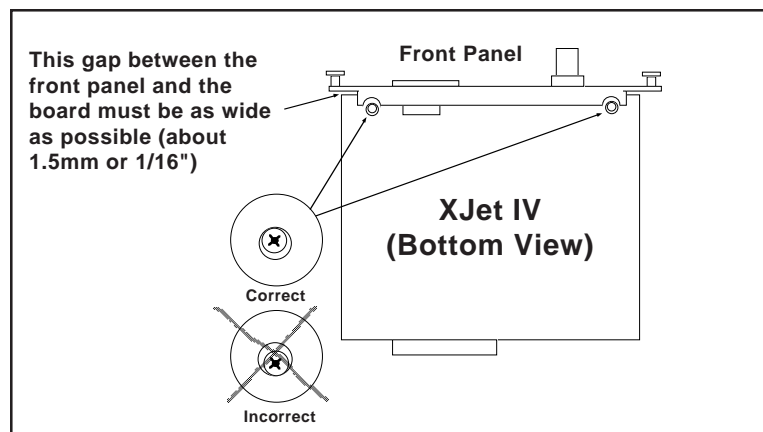

Figure 14-1
- b. If the self-test does print and you have an XJet IV or XJet 100, the XJet card Ethernet address, node name, and Ethernet statistics should appear on the printout. If they do not, first check the front panel spacing as shown in figure 14-1 (this has been a major cause of this problem). If the front panel is OK, try reinstalling
2. If you have an XJet IV or XJet 100 card, check the printer self-test page. The XJet card Ethernet address, node name, and Ethernet statistics should appear on the printout. If they do not, first check the front panel spacing as shown in figure 14-1 (this has been a major cause of this problem). If the front panel is OK, try reinstalling the board (if you have a LaserJet 4 or 4M, make sure that the board is tightened all the way because this printer is especially sensitive to loose connections). If none of this works, the board may be bad.
2. Another major cause of intermittent operation with the XJet IV-Plus is the front panel problem shown in figure 14-1. Make sure that the front panel is properly mounted, and then reinstall the board in the printer.
4. Random 79 SERVICE xxxx errors on the printer can be caused by the front panel problem described previously and in figure 14-1. If adjusting the front panel does not fix the problem, the hardware may be defective. Contact TROY XCD Tech Support for additional information.